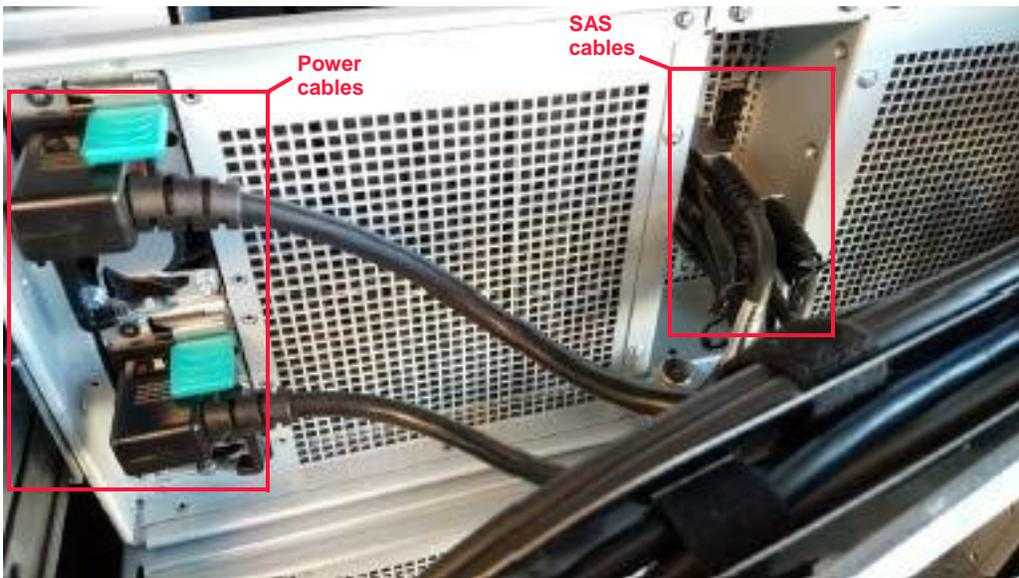

Figure D.6 Example of power and SAS cables installed
8. Plug the power cables into their respective PSU jacks. An example is shown in Figure D.6 on page 113. Note that the plugs may be oriented differently on the supplied power cables.
9. Plug the SAS cables into the appropriate ports on each I/O module, also shown in Figure D.6.